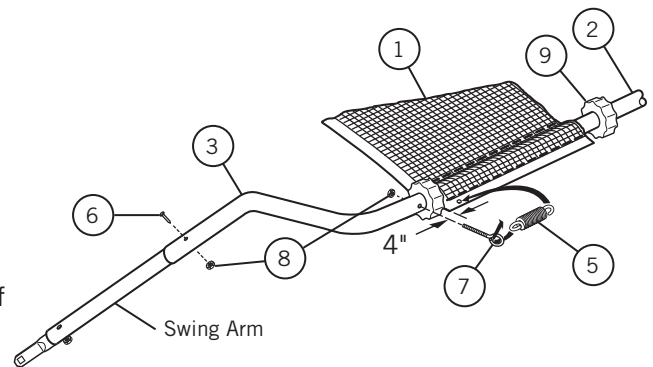

Figure 31-1
- 1) Figure 31-1.** Feed the cross arm (2) through the pocket in the end of the tarp (1).
- Figure 31-1.** Drill a 9/32" hole through each swing arm using the holes in the connecting arms as a guide.
- Fasten the swing arms to the connecting arms with 1/4-20 x 2 1/2 hex bolts (6) and 1/4 Keps nut (8).
- Figure 31-1.** Measure 4" from the edge of the tarp on both sides. Drill 9/32" horizontal hole through the connecting arm and the cross arm. DO NOT drill through the tarp.